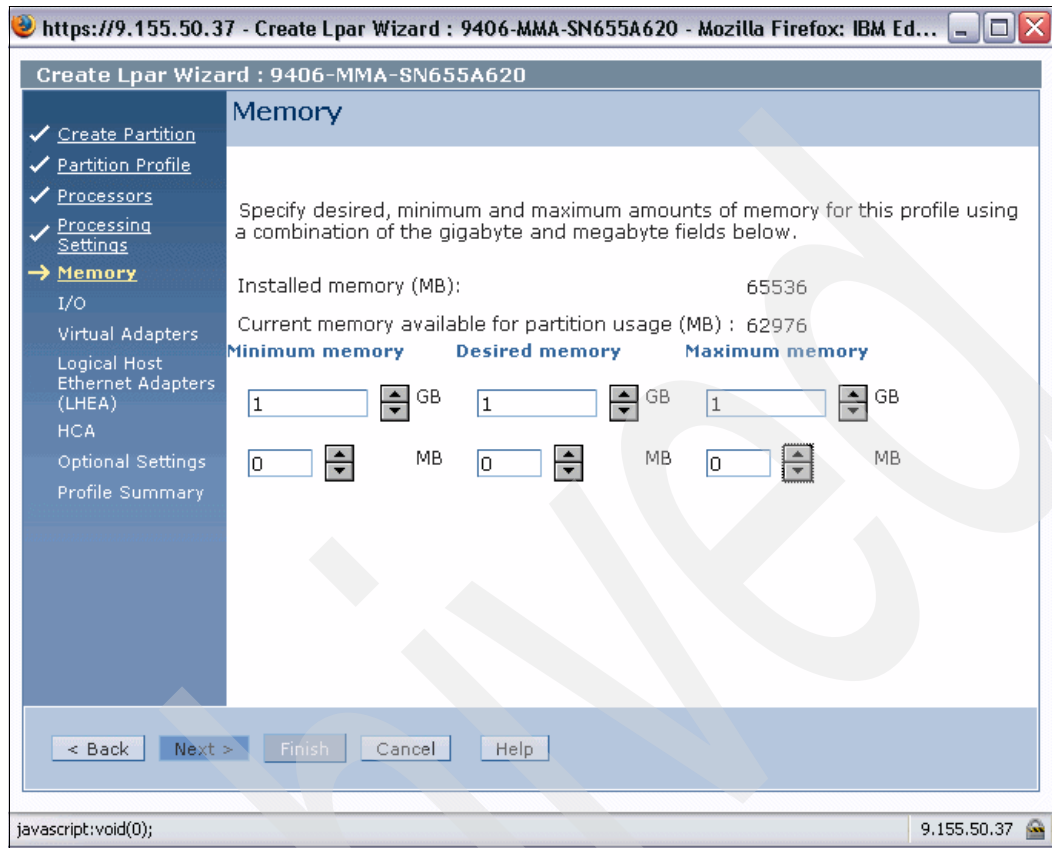

Figure 6-8 Create LPAR Memory dialog
6. We select 1 GB memory for the minimum, desired, and maximum memory settings for the new VIOS partition and click **Next** to continue, as shown in Figure 6-8.